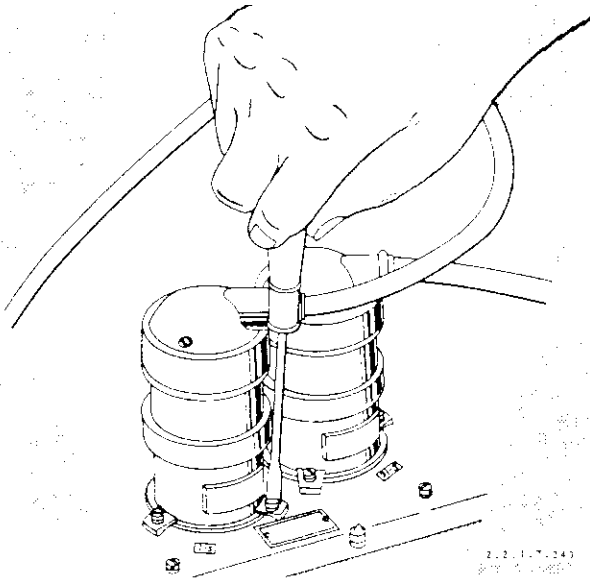

Figure 2-6. Loosening Clamps on Selsyn
- c. Loosen selsyn clamps (figure 2-6) and rotate selsyn stator until voltmeter indicates a minimum voltage.